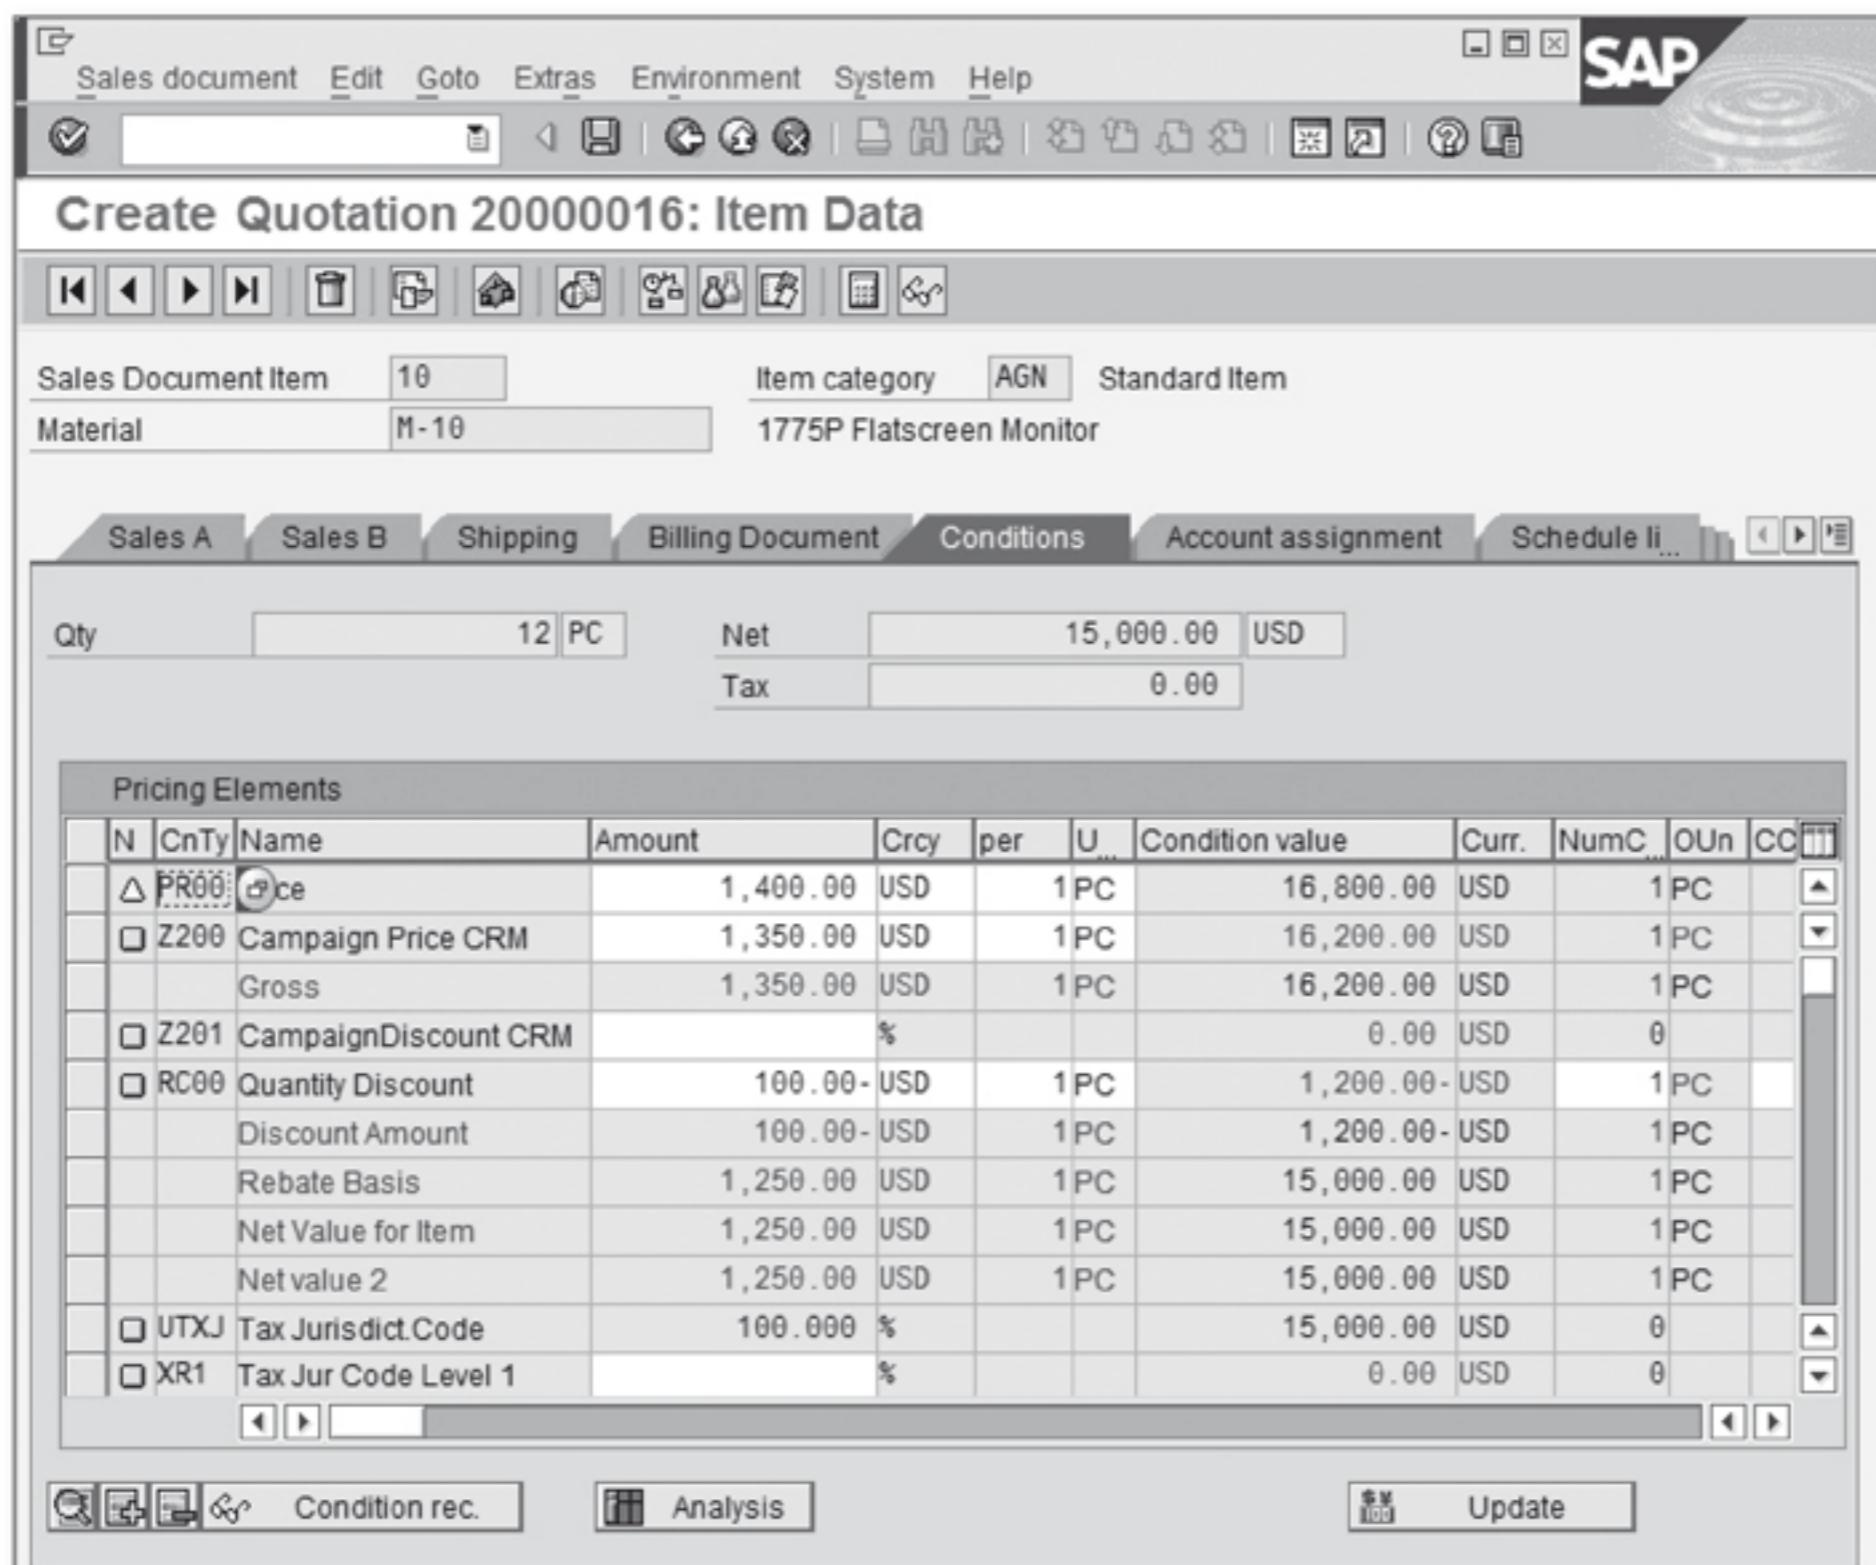

Figure 3.9 Create Quotation Item Data Pricing Conditions
4. If you need to make changes to pricing, which is usually the data object maintained the most during this presales activity, you can select the line item and use the Item Condition icon or the drop-down menus by choosing GoTo • ITEM • CONDITION, as shown in the item condition screen in Figure 3.9.